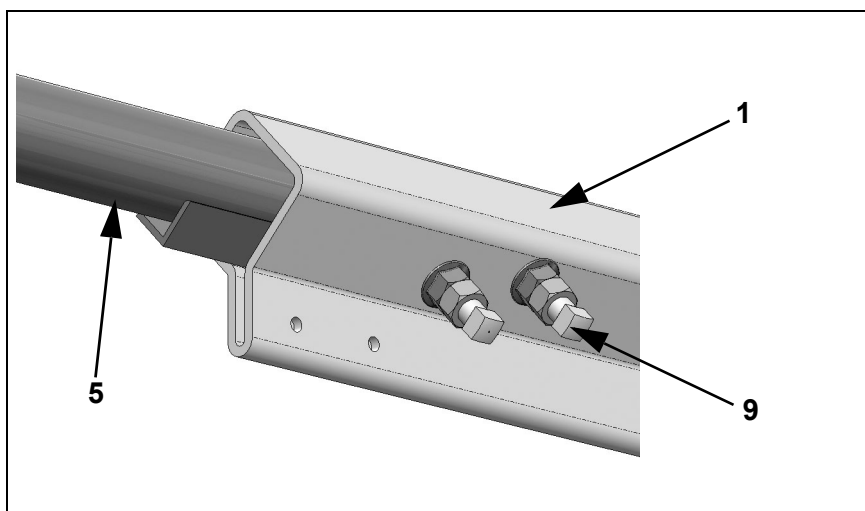

Fig. 4: Installing the mainframe
2. Install the telescope axes (5 and 6, Fig.4) on both sides of the chute in the previously installed Inline-Reversing tensioner.
The telescope axle is an individual continuous axle for belt widths of 84 (2200) or greater. Therefore the telescope axle must first be inserted into the mainframe (1, Fig. 4) for belt widths of this size or greater and both frames must be installed together in the Inline-Reversing tensioner.
4. Slide the mainframe (1, Fig. 4) onto the telescope axle (5, Fig. 4) on one side and then slide it onto the telescope axle on the far side.
Once the dimensions are correct and the pre-cleaner aligned, the mainframe can be attached accordingly using the SHS screws (9, Fig. 4). If this is not the case, then the mainframe must be reinstalled or repositioned.